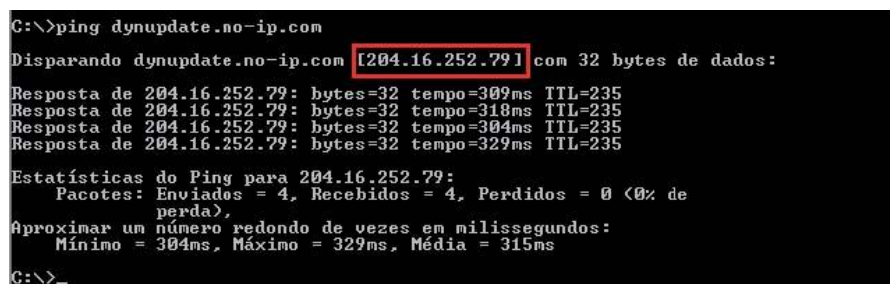

Figure 14-10
10. Now you need to define the definition of the server's IP in IP-device able to access this service DDNS. To get DDNS service, you need to have a computer connected to the Internet on the same network with device. Then please type the command `dynupdate.no-ping-ip.com` at the command prompt, Windows ®. The server's IP will be displayed on the screen. See Figure 14-10. Your device can use this IP to find the No-IP server.